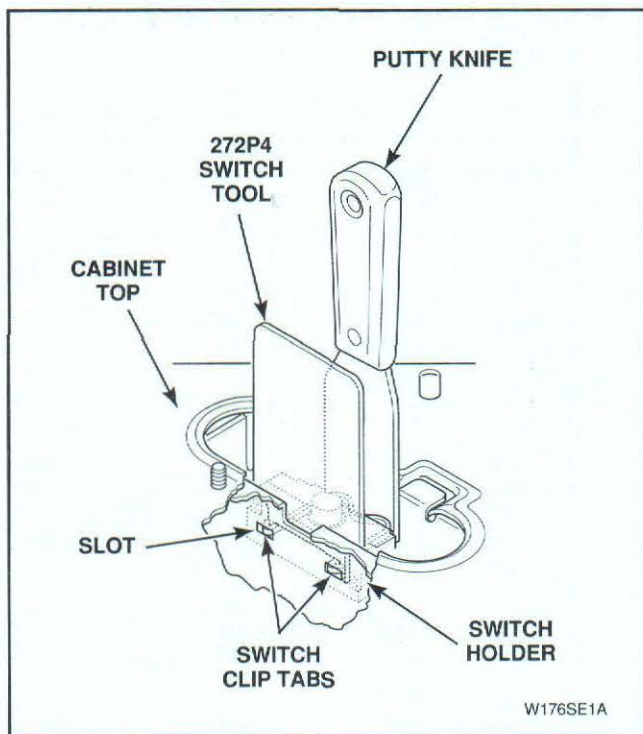

Figure 35
- Place a putty knife, or similar device, on backside of switch clip, *Figure 35*; push on switch clip as you carefully pull the switch tool out between switch and holder, allowing switch clip tabs to engage with slots in holder, *Figure 35*.